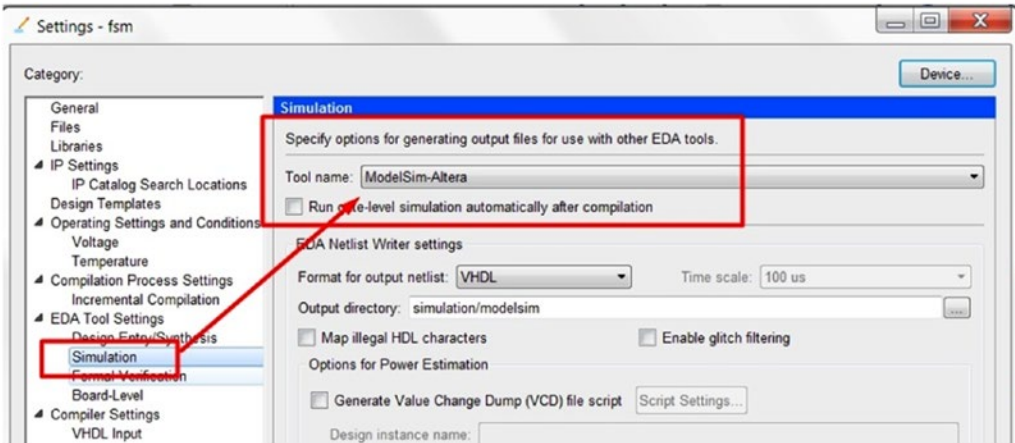

Figure 11-11. Set ModelSim-Altera as simulation tool in Quartus
1. Set ModelSim-Altera ver. as the default simulator in Quartus Prime. **Assignments** ► **Settings** ► Tool name: ModelSim-Altera (shown in Figure 11-11)